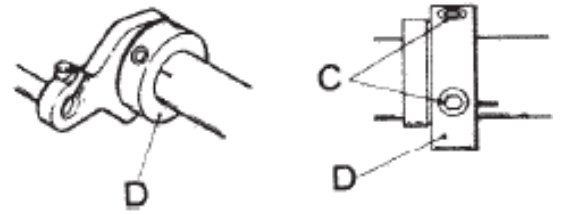

Fig. 17
*Recommended Adjustments at the time of shipment of machines, Front Needle Guard has been adjusted to come nearest to left Needle when the point of Looper passes at the center of Needle. In case of readjusting timing of movement of front Needle Guard, loosen Screw (C) (Fig.17) and move Needle Guard Eccentric (D). The standard adjustment is to set Countermark on the Shaft with center of Screw, which is the rear one to rotating direction.